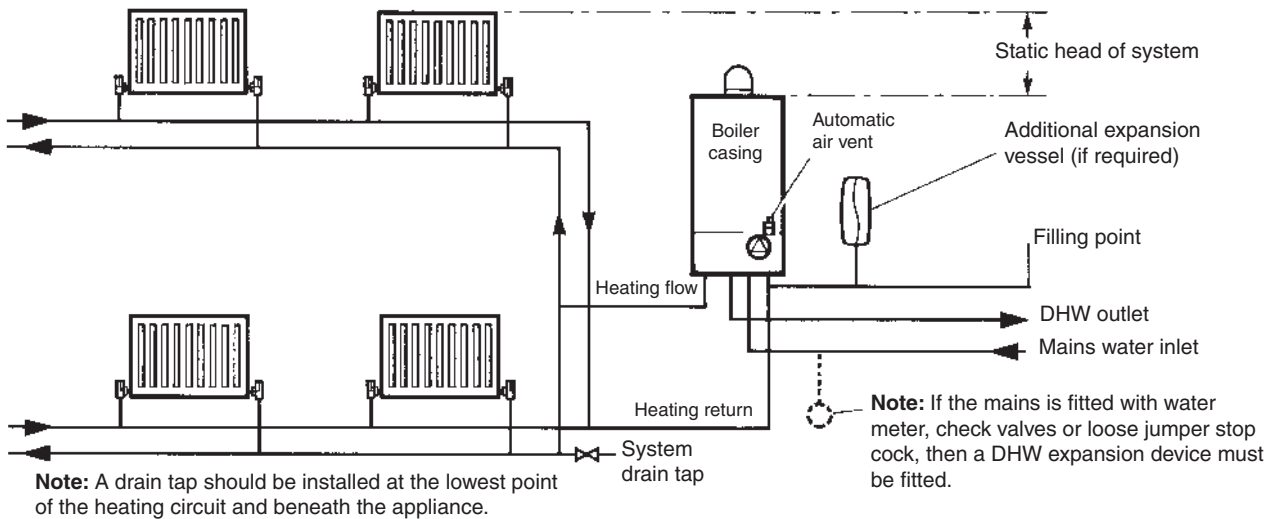

Fig. 3.4
### 3.7 CENTRAL HEATING SYSTEM - Fig. 3.4
**System volume** - The expansion vessel incorporated into the boiler is suitable for a sealed heating system with a maximum water content of 80 litres (18 gal). Above 80 litres, consideration should be given to fitting an additional expansion vessel fitted in the position shown in Fig. 3.4. To check correct operation of the expansion vessel(s) the system pressure should not be more than 2.5 bar when the system is at maximum operating temperature (for further guidance refer to BS 7074:1).
The system design pressure (cold) should be set to 1.0 bar. This pressure is equivalent to a static head (see Fig. 3.4) of 10.2 metres of water.